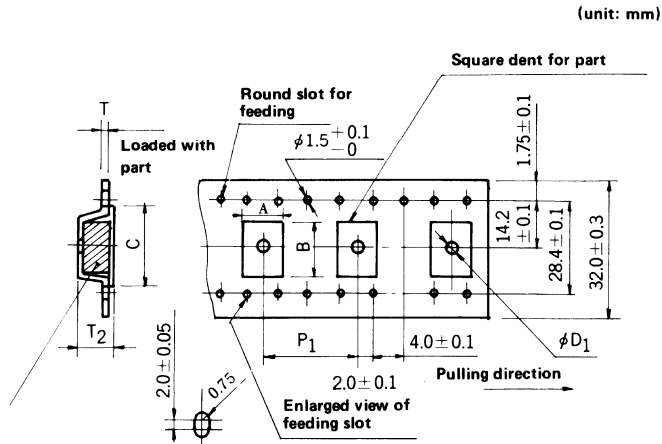

Fig. 7 Embossed taping types TE2412, 2416 and 2420
c) Types TE2412, 2416, 2420 (Fig. 7)